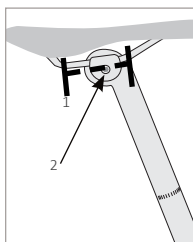
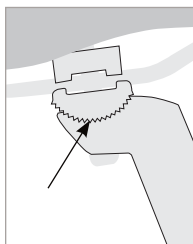

FIGURE 3.9
FIGURE 3.10
The saddle can be moved forward or rearward along the seatpost to add comfort and to adjust the distance from the handlebar, but the flat portion of the rails (Figure 3.9) must remain completely within the saddle-clamp.
1. Loosen the saddle-clamp bolt (Figure 3.9) until the saddle can be moved.
3. Adjust the saddle. Make sure the clamp attaches to the flat portion of the saddle rails (Figure 3.9) and that if present, the serrations (Figure 3.10) are aligned and engaged.
- One bolt across the seatpost head that uses a 5 mm hex wrench (Figure 3.9): 120-130 lb•in (13.6-14.7 Nm)